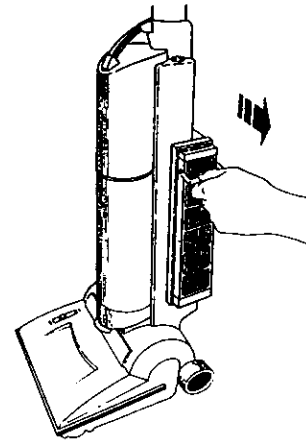

FIGURE 27
- Grasp the plastic strap at the end of the Filter Cartridge and pull out to remove the Cartridge. (Figure 27) Discard Cartridge into a trash can.